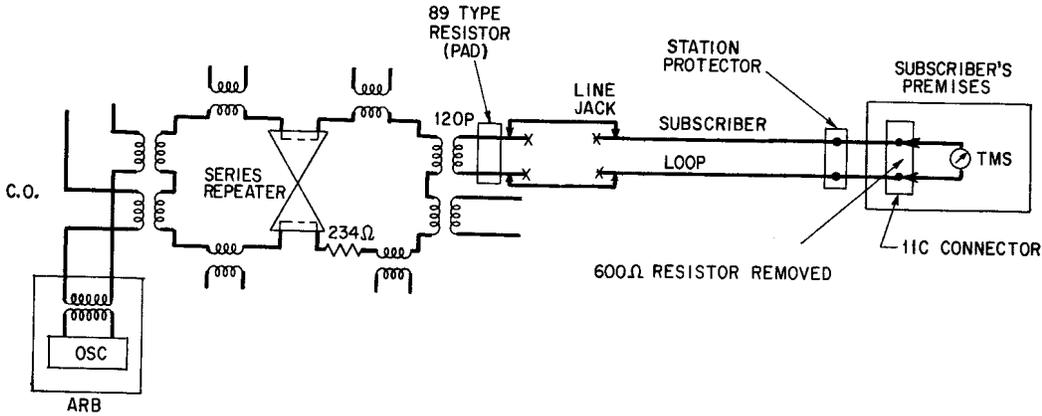

Fig. 8 — Frequency Response Measurement of Over-All System
6.06 The procedure for making an over-all frequency run from the end of the loop to ARB headquarters is outlined in Chart III. The test circuit is shown in Fig. 8.
4	Connect test equipment as shown in Fig. 8.